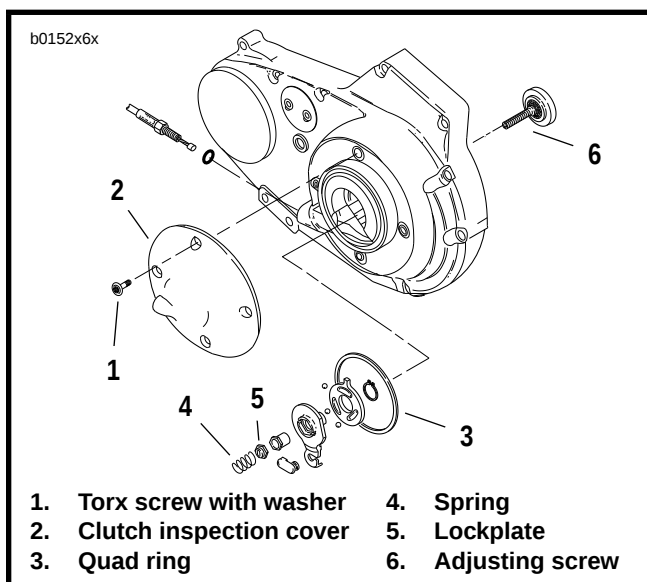

Figure 1-19. Clutch Release Mechanism
3. See Figure 1-19. Remove TORX screws with washers (1) from clutch inspection cover (2). Remove clutch inspection cover from primary cover, but leave Quad ring (3) in place.
Quad ring removed from primary cover for illustrative purposes only in Figure 1-19.